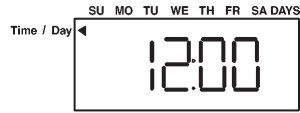

fig.10
- 2) Using the buttons $\downarrow\uparrow$ set the current time (fig. 10).